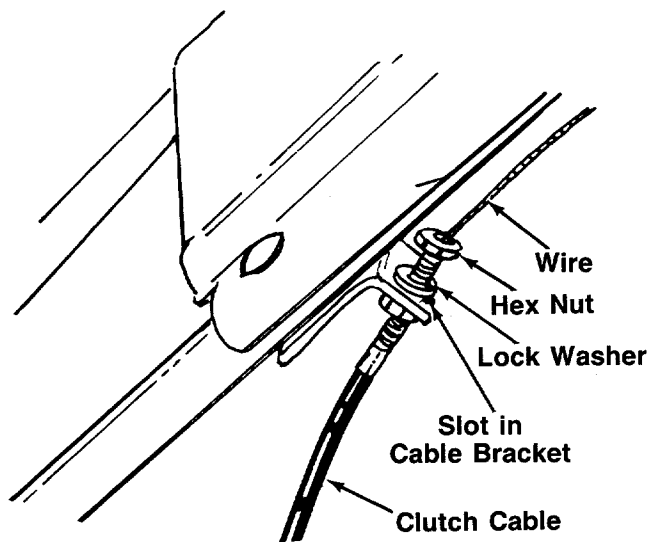

FIGURE 10.
2. Remove one nut and lock washer from other end of clutch cable. Slip the wire up through slot on clutch cable bracket. Start hex nut and lock washer back on end of clutch cable. See figure 10. Do not tighten at this time.